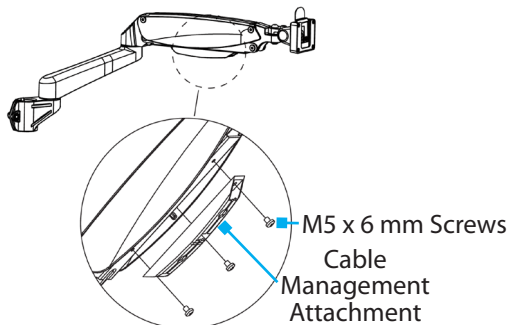

Figure 12
2. Fit the **Cable Management Attachment** into the base of the uppermost portion of the **Arm Assembly** and hold in place. (Figure 12)